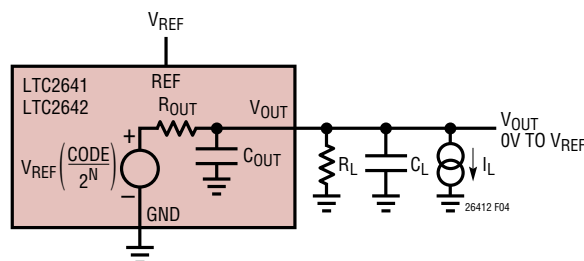

Figure 4.  $V_{OUT}$  Pin Equivalent Circuit
However, unbuffered operation requires that appropriate loading be maintained on the  $V_{OUT}$  pin. The LTC2641/LTC2642  $V_{OUT}$  can be modeled as an ideal voltage source in series with a source resistance of  $R_{OUT}$ , typically 6.2k (Figure 4). The DAC's linear output impedance allows it to drive medium loads ( $R_L > 60k$ ) without degrading INL or DNL; only the gain error is increased. The gain error (GE) caused by a load resistance,  $R_L$ , (relative to full scale) is:
(Figure 4). Settling to 1/2LSB at 16-bits requires about 12 time constants ( $\ln(2 \cdot 65,536)$ ). The typical settling time of  $1\mu\text{s}$  corresponds to a time constant of 83ns, and a total ( $C_{OUT} + C_L$ ) of about  $83\text{ns}/6.2\text{k} = 13\text{pF}$ . The internal capacitance,  $C_{OUT}$  is typically 10pF, so an external  $C_L$  of 3pF corresponds to  $1\mu\text{s}$  settling to 1/2LSB.